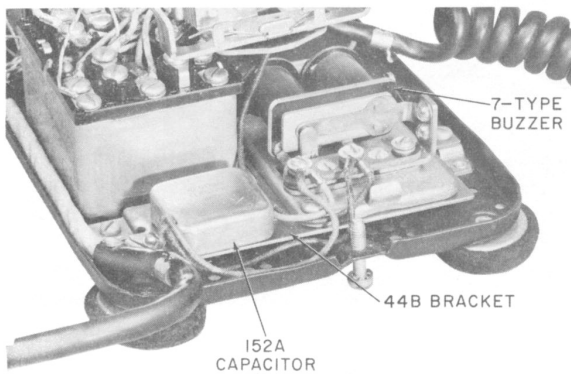

Fig. 11—Mounting of 7-Type Buzzer and 152A Capacitor on 44B Bracket
3.06 If desired, the N1A ringer in the 2564HL telephone set may be replaced with a 7-type buzzer and a 152A capacitor mounted on a 44B bracket (order separately) (Fig. 11).